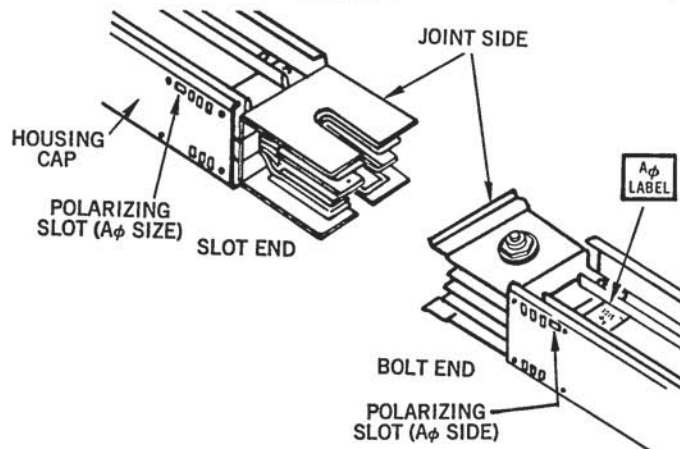

FIGURE 9
4. Arrange the pieces to be joined so that the  $A\phi$  sides align. Identified by  $A\phi$  label on housing side and polarizing slot in housing cap. See figure 9. Note that phase transposition lengths, when furnished, will relocate the  $A\phi$  to the opposite side of the busway run.